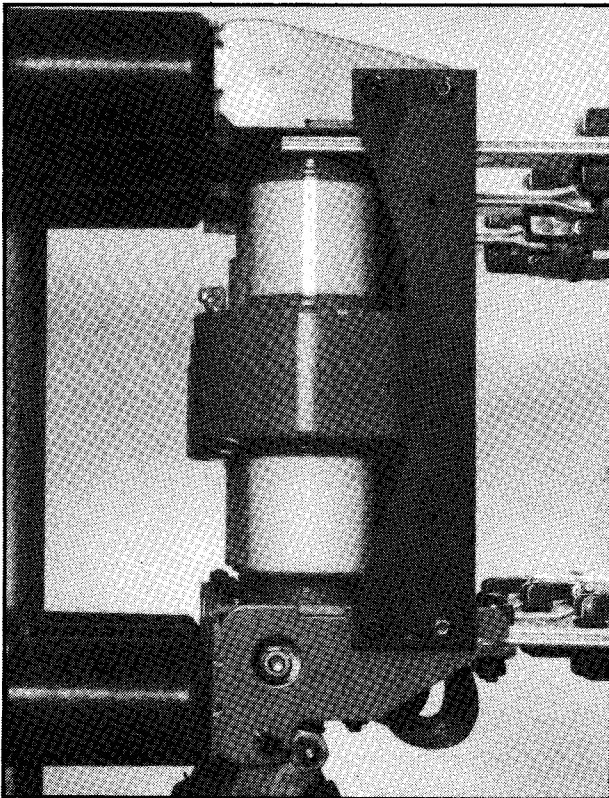

Figure 66. Inserting New Vacuum Interrupter.
2. Insert the replacement vacuum interrupter into the lower stab support with the evacuation nipple shown in **Figure 66** facing the breaker mechanism housing.